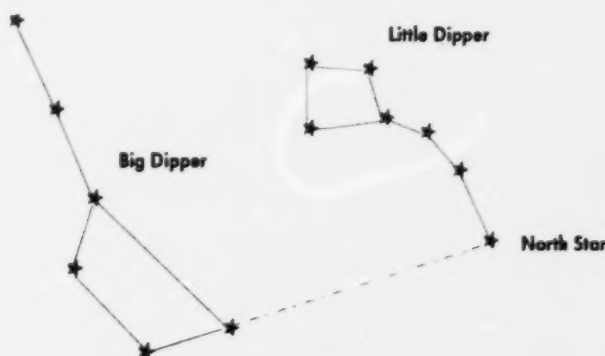

Figure 2 - Constellations
2. In order to measure the angle of the star trace you'll need to have the axis in the photograph. The axis for the rotation is the point that the earth's axis points at. The North star Polaris is very close to that point of rotation. In order to find the North star, look for the Big Dipper constellation. The two pointer stars in the Big Dipper connect an imaginary line with the North Star in the handle of the Little Dipper. Be sure to have the North star somewhere in the viewfinder of the camera (See Fig. 2).